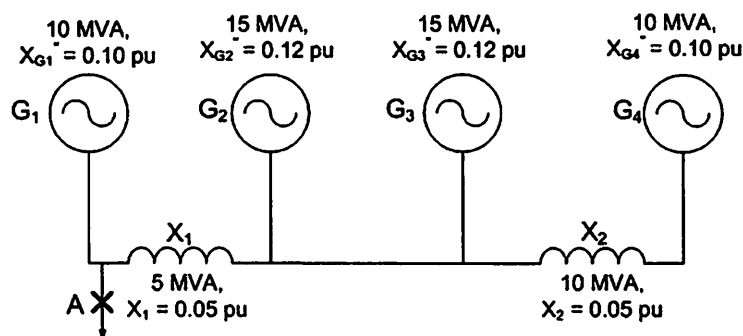

Fig 4.1: A segment of a power system comprising of four generators (G_1 , G_2 , G_3 and G_4) and two reactors (X_1 and X_2)
- b) A segment of a power system comprising of four generators (G_1 , G_2 , G_3 and G_4) and two reactors (X_1 and X_2) is shown in Fig. 4.1. The MVA rating and reactance (in per unit of respective rating) of each component is shown on the figure. Calculate the fault MVA for a 3-phase short circuit at point A on the system. Neglect pre-fault current and assume 1.0 pu pre-fault voltage everywhere in the system. Choose 10 MVA as the common system base.